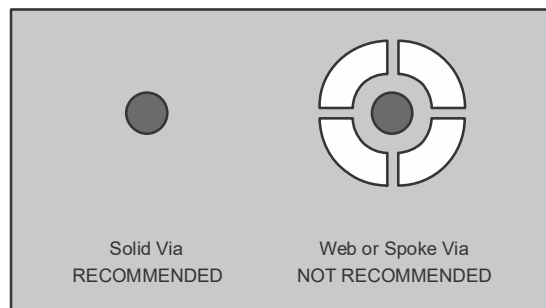

图 7-5. Via Connection
5. When connecting these holes to the ground plane, do not use the typical web or spoke via connection methodology; see 图 7-5. Web connections have a high thermal resistance that is useful for slowing the heat transfer during soldering operations. This heat-transfer slowing makes the soldering of vias that have plane connections easier. However, in this application, low thermal resistance is desired for the most efficient heat transfer. Therefore, connect the holes under the PowerPAD package to the internal ground plane with a complete connection around the entire circumference of the plated through hole.